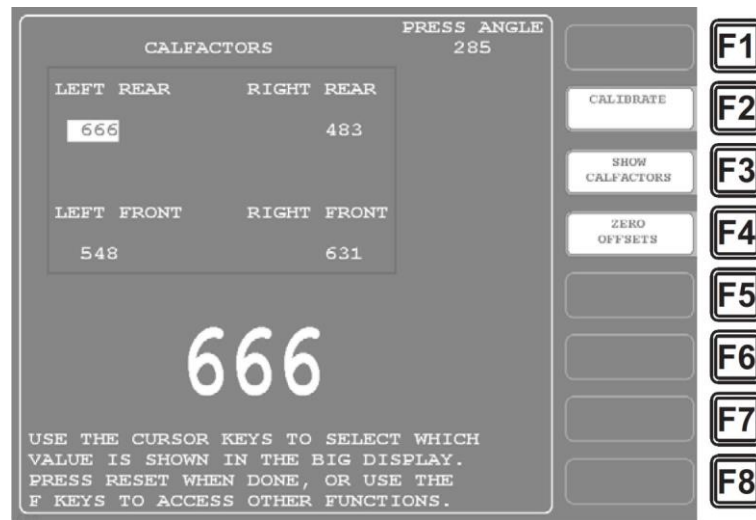

Figure 3-24. Calibration Screen: Calfactors Display
10. When you have finished adjusting the AutoSetPAC so its tonnage readings match those displayed on the calibration unit, press F3 (Show Calfactors) on the Calibration screen. The screen shown in Figure 3-24 displays.
As shown in Figure 3-24, the caption at the top of the screen changes from CALIBRATION to CALFACTORS, and numbers between 40 and 960 are shown in the strain link channel displays. These numbers are the “calfactors,” or calibration settings, for your AutoSetPAC.